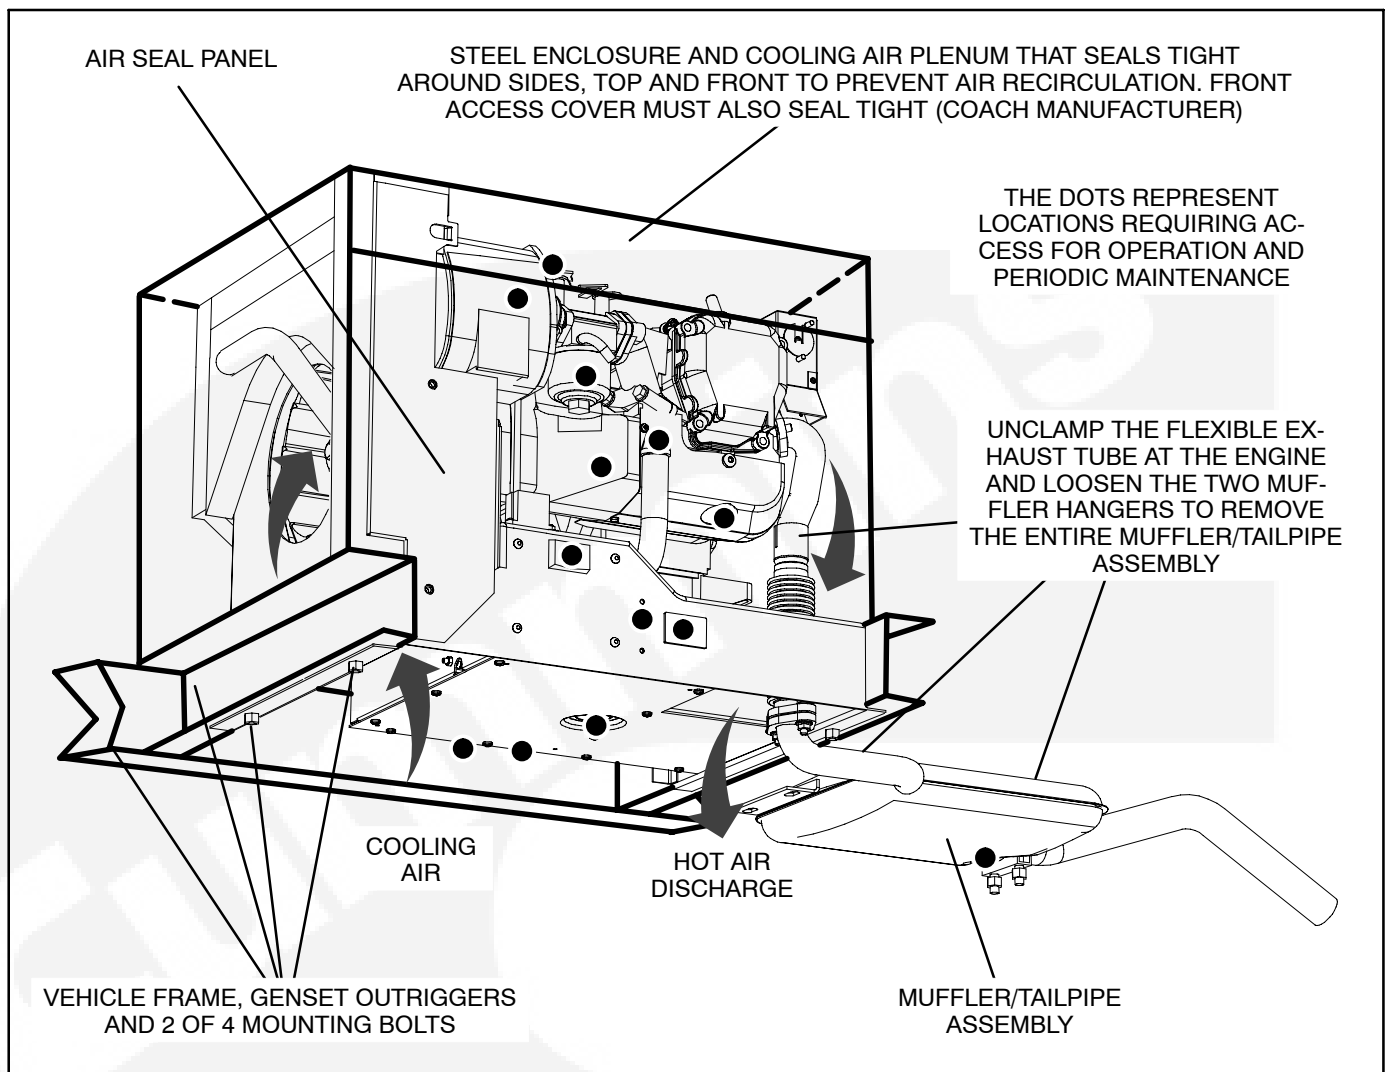

FIGURE 5-3. MODEL KVC INSTALLATION
Figure 5-3 illustrates the Model KVC genset installation.
8. **For Model KVC**, unclamp the flexible exhaust tube from the engine and loosen the two muffler hangers to remove the entire muffler/tail pipe assembly (Figure 5-3). Take care not to damage the flexible exhaust tube.
Remove the air seal panel (Figure 5-3) and make sure to support the genset while removing the four mounting bolts. Then lower the genset until it clears the skirt of the vehicle. (It may be necessary to tip the genset and pull it forward slightly to free the back edge from resting on top of the vehicle frame.)